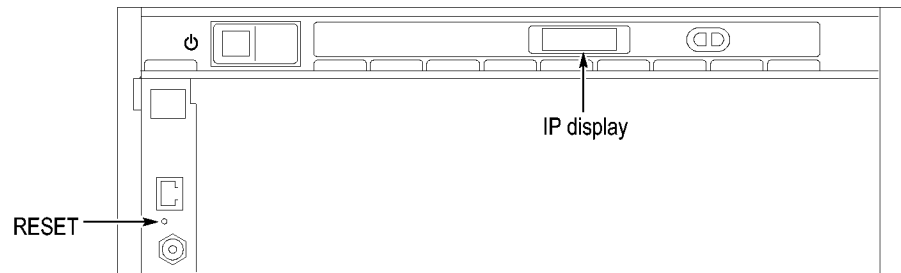

Figure 26: Setting the IP address
1. Press and hold the recessed RESET button on the TLA7016 Interface Module. (See Figure 26.) The front-panel display cycles every 2-3 seconds to the next preset IP address (See Table 4.).